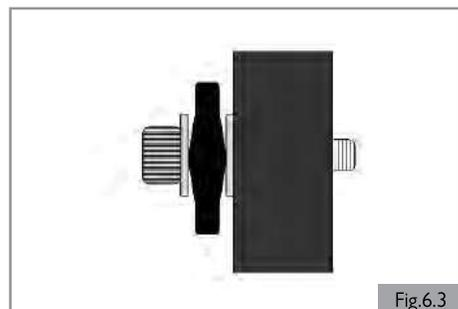

Fig.6.3
4. Put the next washer on to the bolt. (Fig. 6.3)